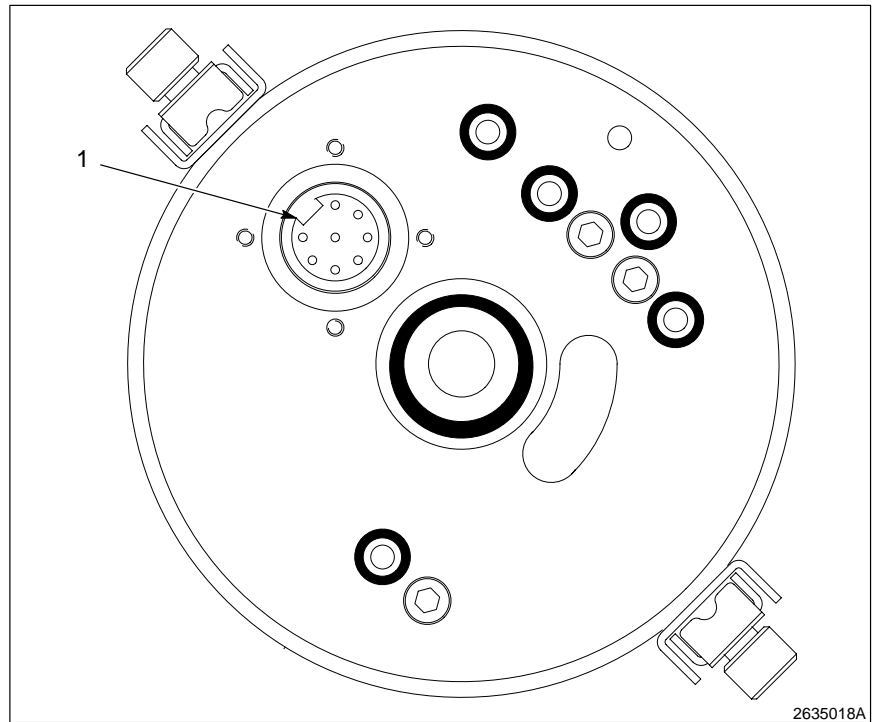

Fig. 7-11 Motor Cable Orientation
7. Install the air hose manifold (1).
8. Install the multiplier (8). The square block of the multiplier should be parallel to the mounting rod.
10. See Figure 7-11. If the motor cable has been removed, install it with the key (1) pointing toward the outside of the powder bell.